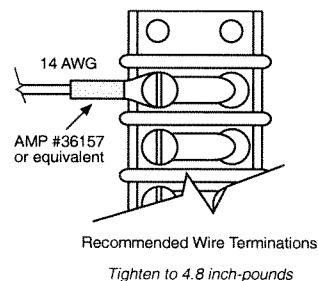

FIGURE 1 Wire Terminations for External Connections
The M-0127A and M-0170A AC Current Relays are listed to UL Standards for Safety by Underwriters Laboratories Inc. (UL). To fulfill requirements for UL listing, terminal block connections must be made as illustrated in Figure 1 below. The wire should be No. 14 AWG inserted in an AMP #36157 (or equivalent) connector, and the screw tightened to 4.8 inch-pounds torque.